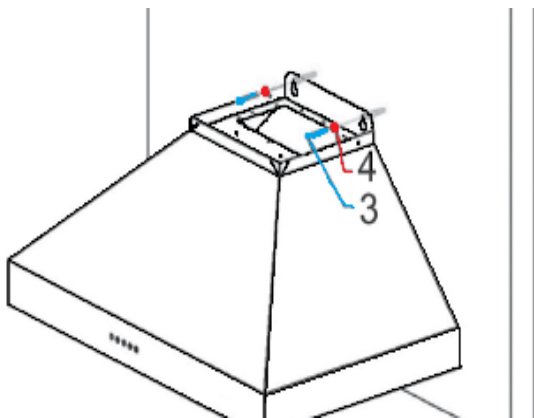

Figure 2.
3. Place the hood on the wall with the center to the vertical reference line and make sure the bottom part of the hood aligns with the horizontal line. With the range in position, mark the wall at the center of the holes in the bracket and remove the hood from the wall. Finally drill the holes and fix the expansion bolt. **NOTES:** Make sure you are leaving the heads out  $\frac{1}{4}$ " to mount the hood. *Figure 2.*